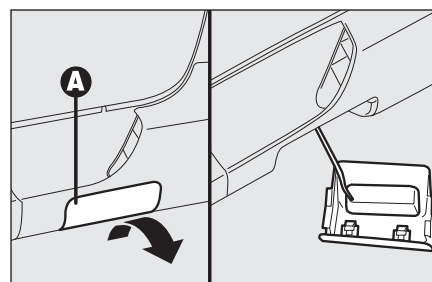

fig. 9
- ☐ The jack shall be fitted as shown in **fig. 7** (for versions fitted with sideskirts, before fitting the jack, remove cover **A-fig. 9** set on the sideskirt as shown in the figure);